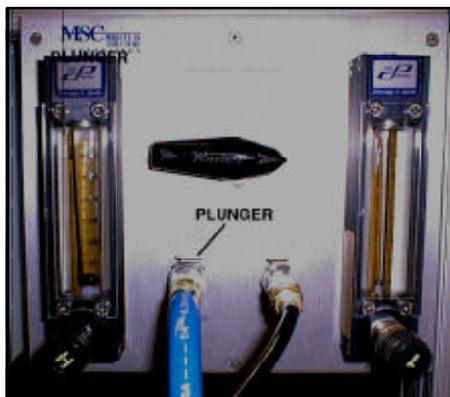

Figure 5-13. Disconnecting the gas tubing.
- 2) There is a leak in the tubing or tube fitting. Disconnect the blue gas tube from the helium box by pushing in on the plunger, Figure 5-13. If gas is heard escaping from the end of the tube, there is helium flowing to the box. Ensure the tube fitting is connected properly. If gas is not heard escaping from the end of the tube, inspect the tube for leaks (a leak will be heard) and replace any leaking tube(s).